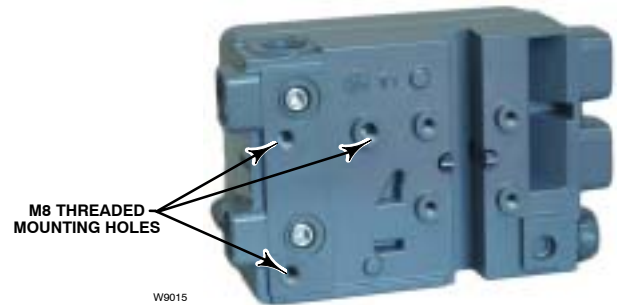

Figure 2-5. Mounting Holes for Linear Actuators
6. Mount the digital valve controller to the mounting bracket, using the mounting bolts. See figure 2-5.